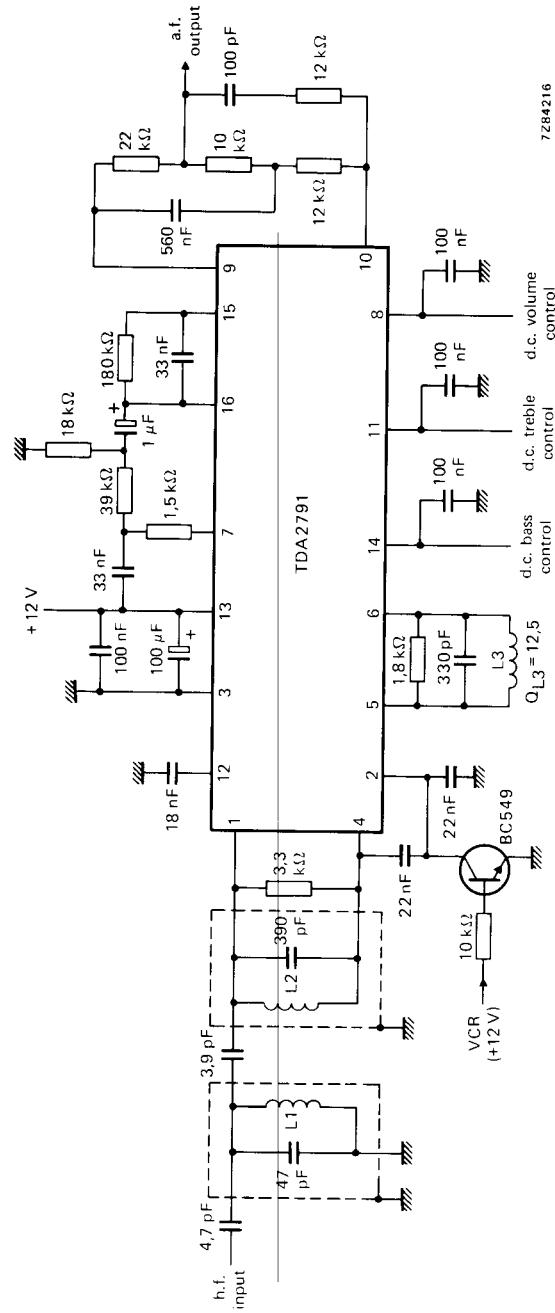

Fig. 9 Application circuit diagram.
CHARACTERISTICSMeasured in Fig. 9 at $T_{amb} = 25$ °C; $V_{13-3} = 12$ V; $f = 5,5$ MHz (unless otherwise specified)
(1) This is actually the a.f. output voltage as shown in Fig. 9.